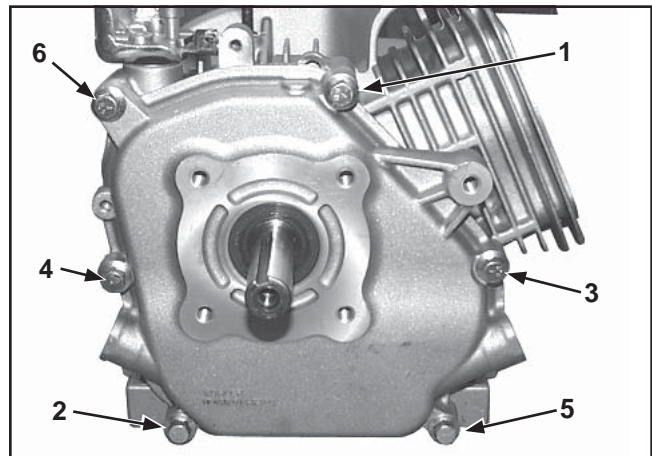

Figure 11-31. CH270 Closure Plate Torque Sequence.
4. Install the hex flange screws securing the closure plate to the crankcase. Torque hex flange screws to **24 N·m (212 in. lb.)**. See Figure 11-31 or 11-32 for the torque sequence.